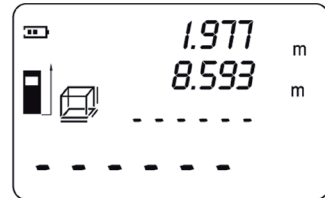

Fig. 13
6. Press the Read button again to display the width on the second line of the screen. The line for the height in the  symbol will start to flash (fig. 13).